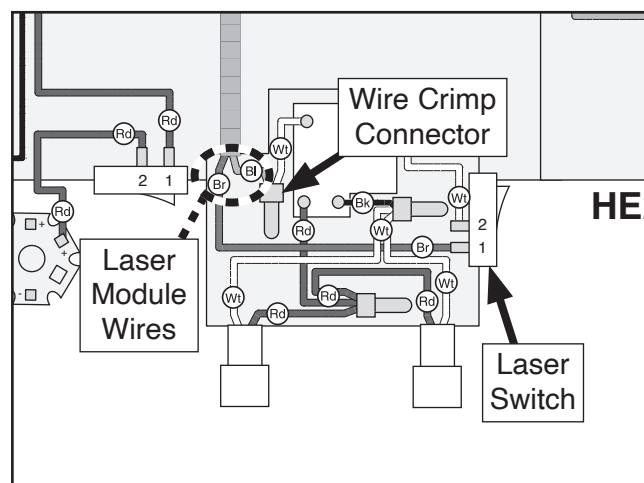

Figure 80. Laser module cord wires to disconnect.
3. Disconnect laser module cord wires from wire crimp connector and laser switch (see **Figure 80**).